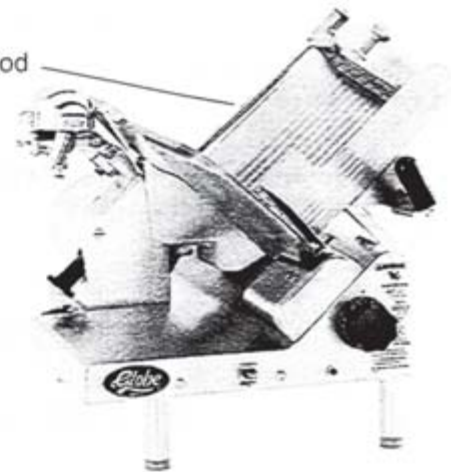

Figure 23-2
- a. The end weight slide rod (#1) (Fig. 23-2) should be lubricated as needed with a few drops of Globe oil. The Globe Oil is intended for this use.